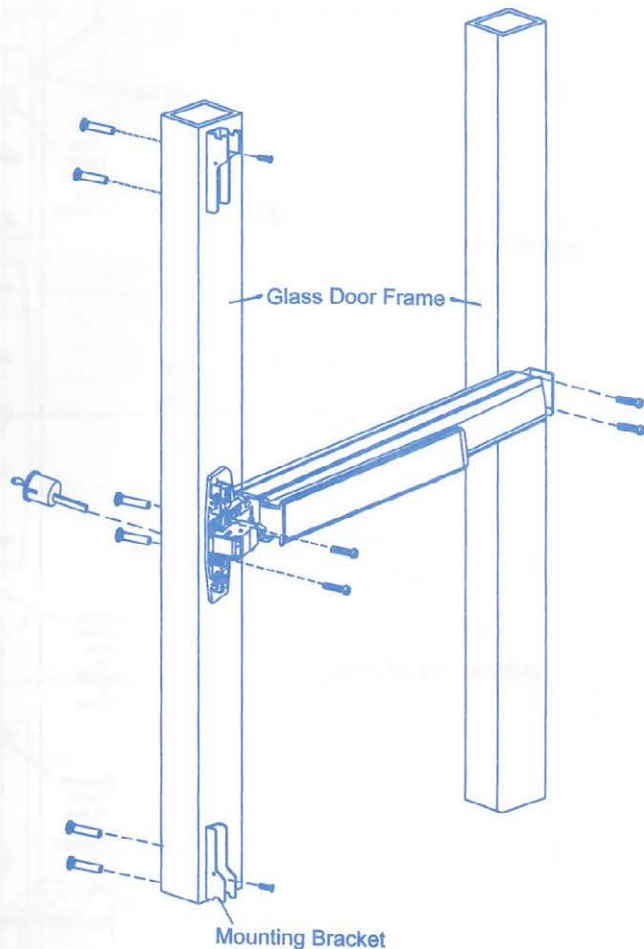

Figure 2
6. Remove top and bottom latch covers and mounting brackets from both top and bottom latch assemblies. Install two latch mounting brackets on top and bottom of the door frame (see Figure 2).